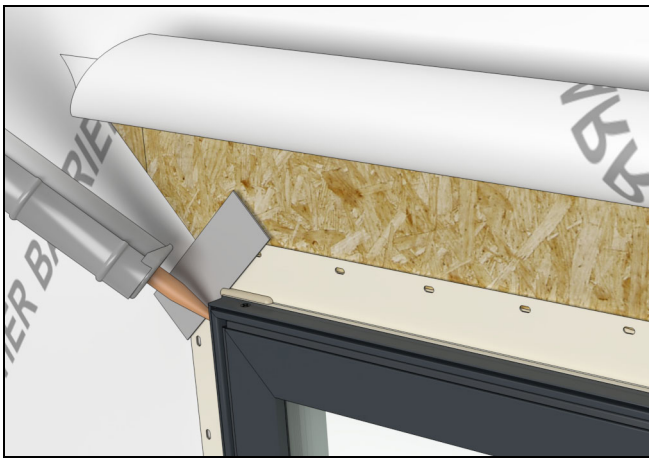

Figure 272
3. Apply a bead of sealant between the gasket and the window exterior. Tool the sealant out. See Figure 272.